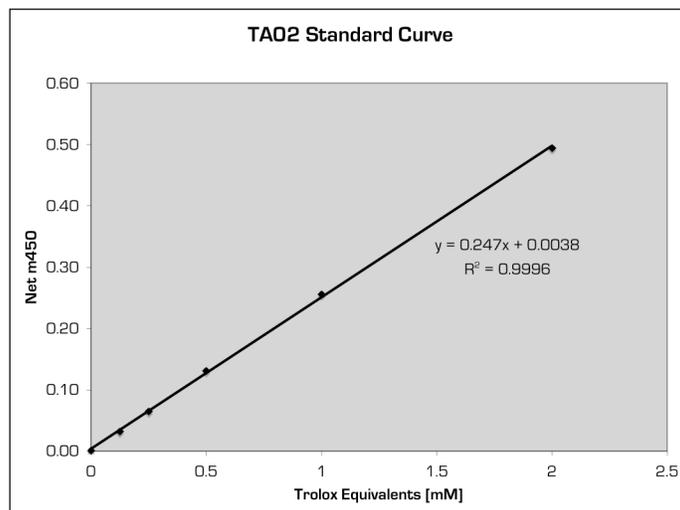

Figure 2: Typical Standard Curve
2. Plot the net absorbance vs. Trolox concentration. A typical standard curve is shown in Figure 2.